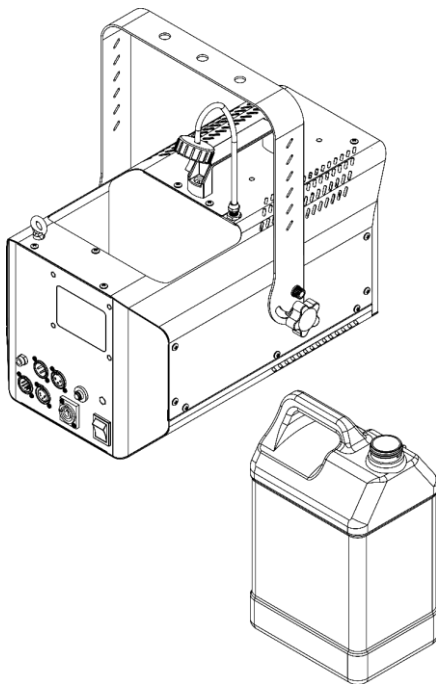

Fig. 16
- 04) Place the fluid tank on a flat service near the device, as shown in Fig. 16.